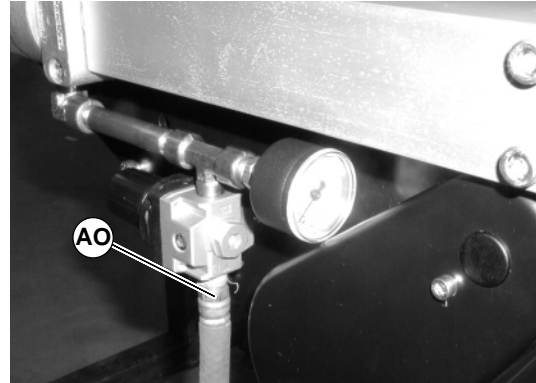

Figure 32
5. Reattach air supply (AO of Figure 32) to center drive. Refer to “Conveyor Belt Tensioning” section on page 13 for more information.
- Reattach air supply (AO of Figure 32) to center drive. Refer to “Conveyor Belt Tensioning” section on page 13 for more information.